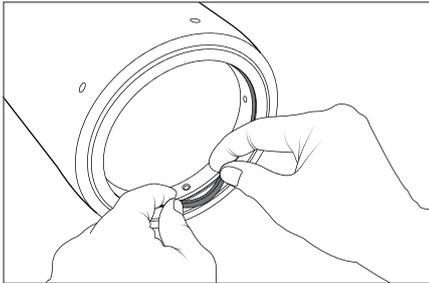

Figure 3
7. Now, with the help of both index fingers hold the INOflex® seal in the groove at a sufficient distance, and carefully insert it into the groove with the thumb. (Figure 3)